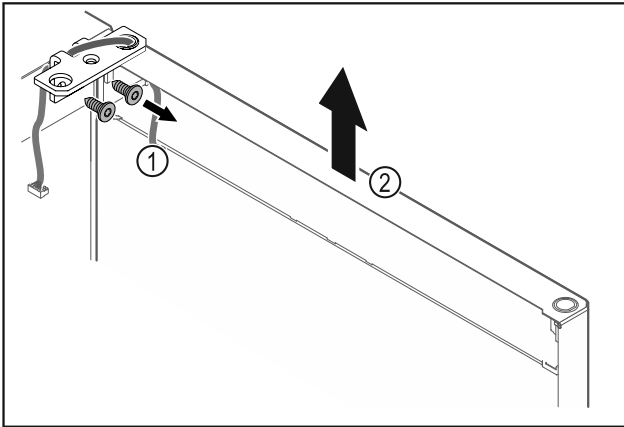

Fig. 17
- ▶ Unscrew the hinge Fig. 17 (1).
- ▶ Lift the door with the hinge straight up by Fig. 17 (2) roughly 200 mm (7.87 in) and take it off.